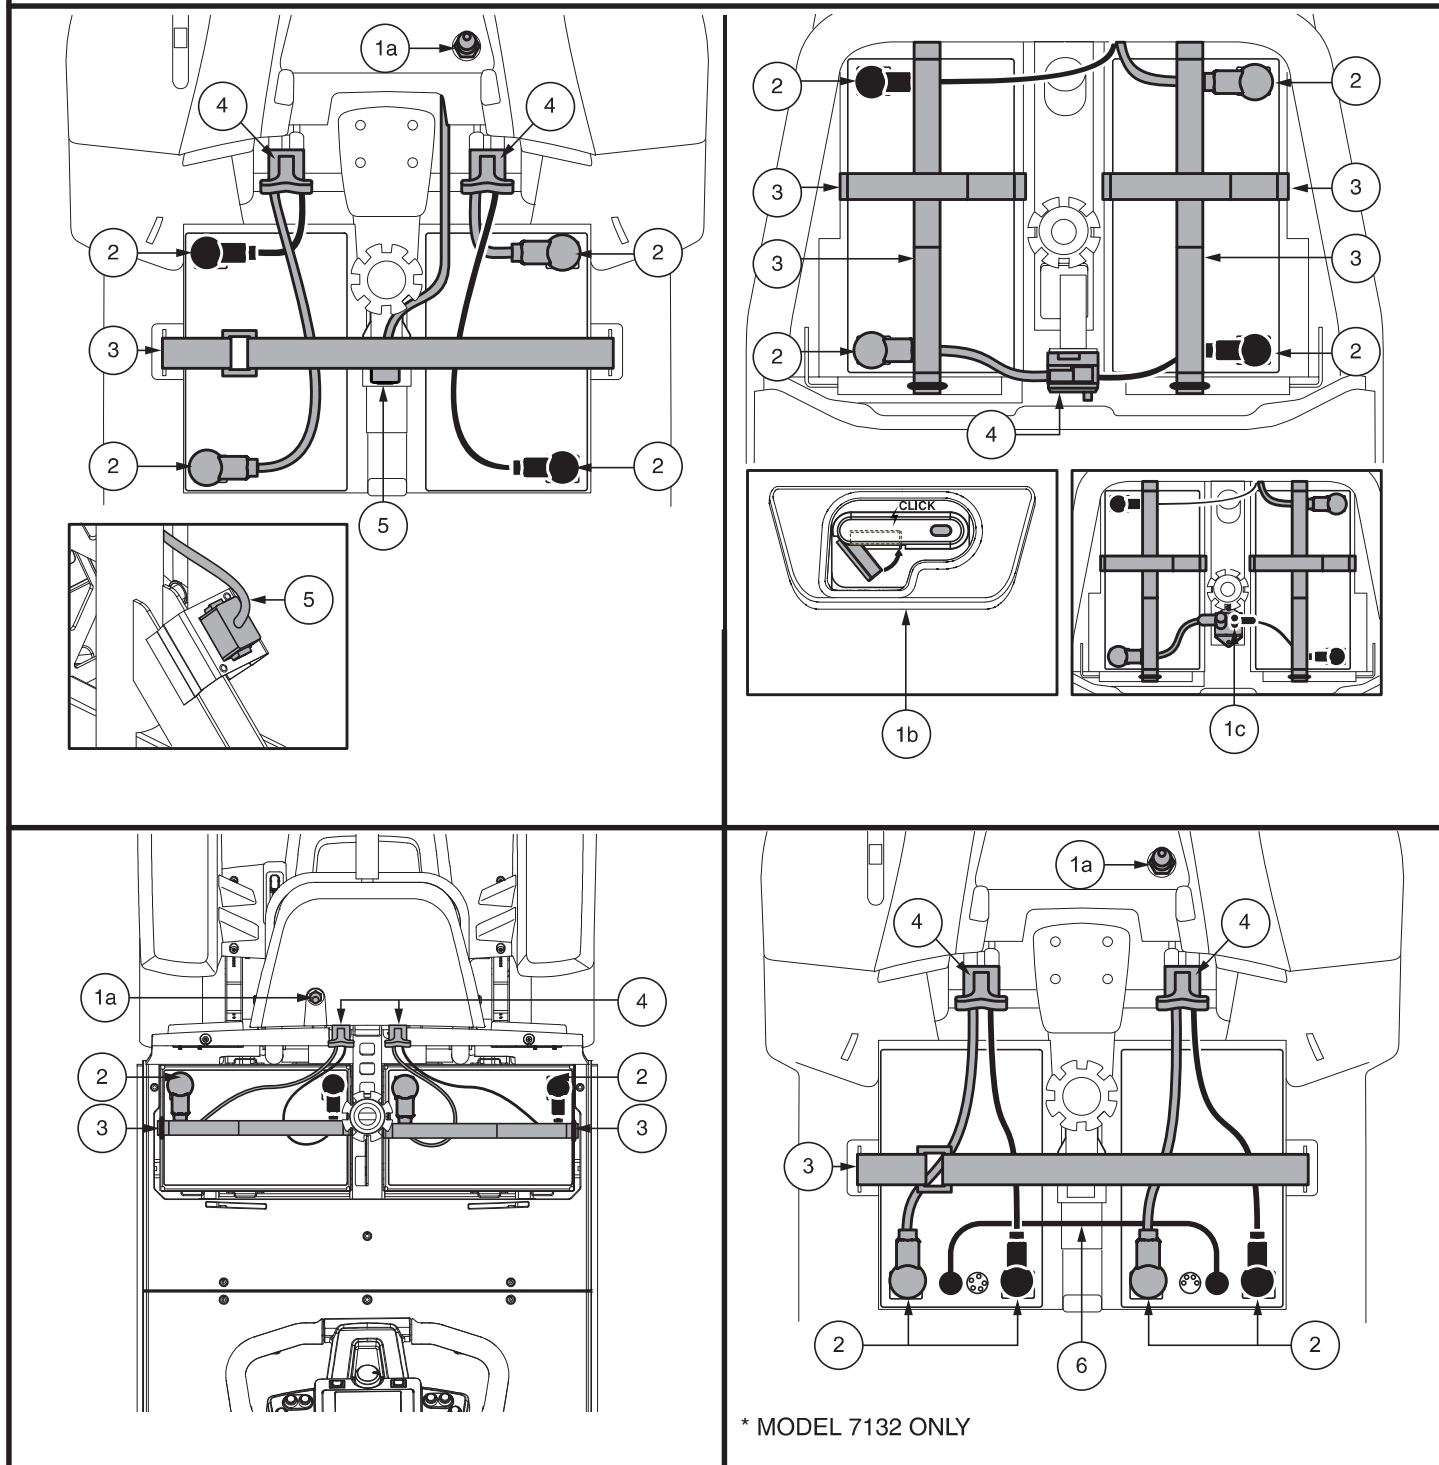

Figure 17. Battery Removal/Installation Terminals and Connections
3. For all models EXCEPT 614 and 714, disconnect the front-to-rear harness. Unplug both battery harnesses by pulling each harness out of its mating plug. See figure 17.
6. Place a new battery in each battery well. Face the battery terminals of each battery away from the seat post with the positive (+) and negative (-) battery terminals positioned as shown in figure 17.
NOTE: Models 614 and 714 use battery straps to secure batteries in the battery wells. Please refer to figure 17 for battery strap installing procedures.